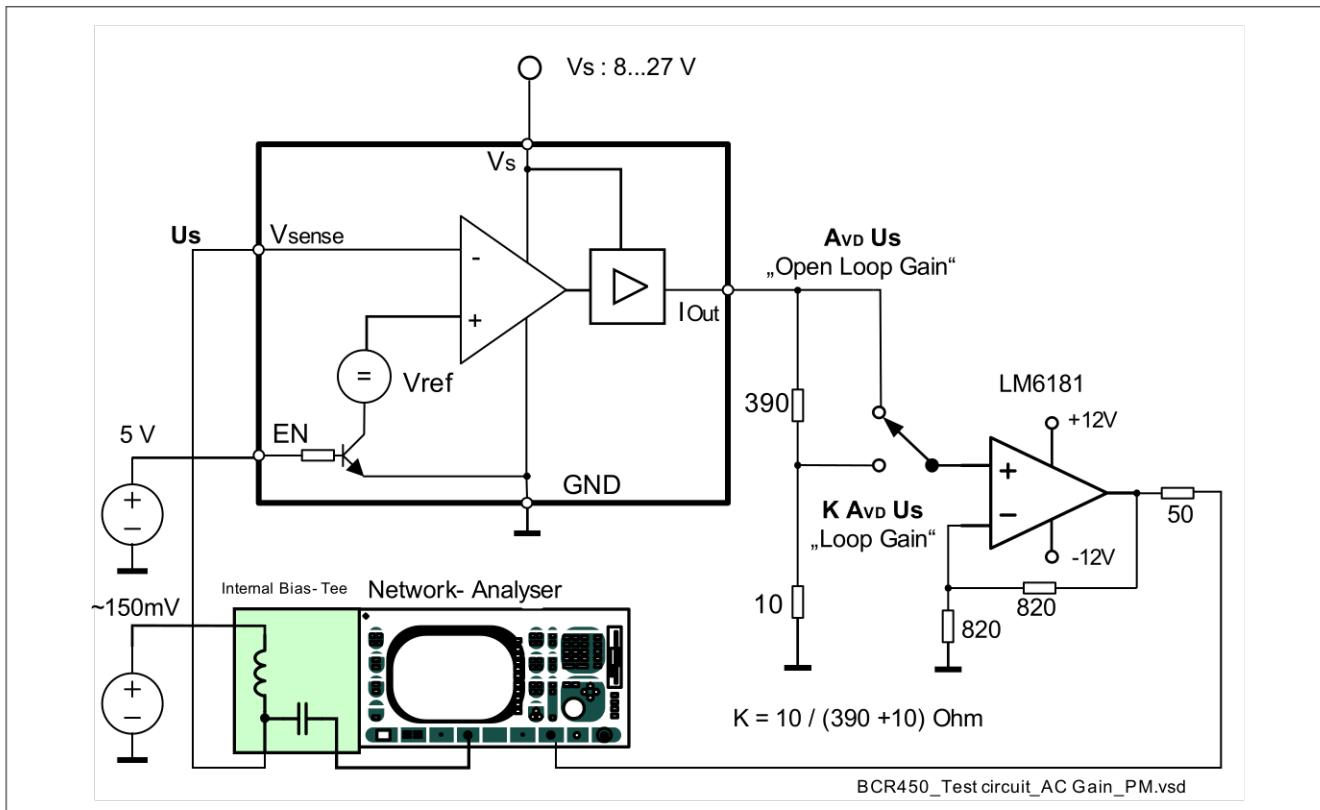

Figure 3 Electrical test circuit for open loop gain, loop gain and phase margin
1) $V_{\text{out}} = 6 \text{ V}$; S2, S6, S8, S9 = on; $R1 = 390 \Omega$; $R2 = 10 \Omega$, see Figure 3